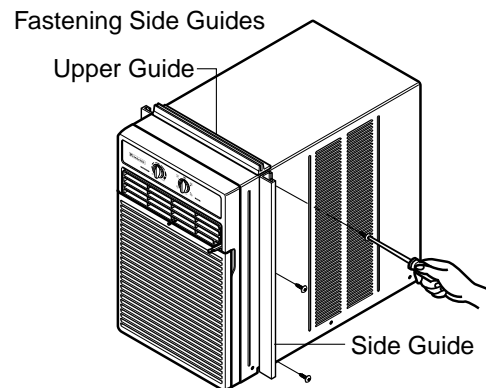

Figure 25
5. Fasten side guides to the sides of the air conditioner using 3-type A screws per guide. start with first screw at middle of guide. (See Figure 25)
6. Fasten upper guide on the top of the air conditioner using 3-type A screws. (See Figure 25)